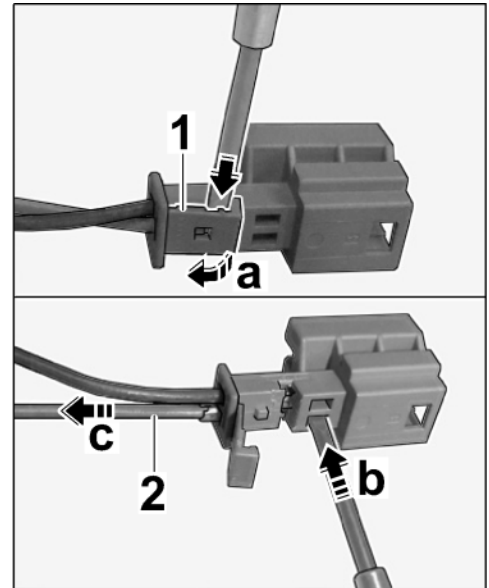

Figure 5
2.2.1 Open secondary lock using a screwdriver on the pin housing. ⇒ *Figure 5-Top, arrow-* and ⇒ *Figure 5-a-*
2.2.2 Release pin contact using the push-out tool. ⇒ *Figure 5-b-*
2.2.3 Pull YE/GY line out of the housing. ⇒ *Figure 5-c-*